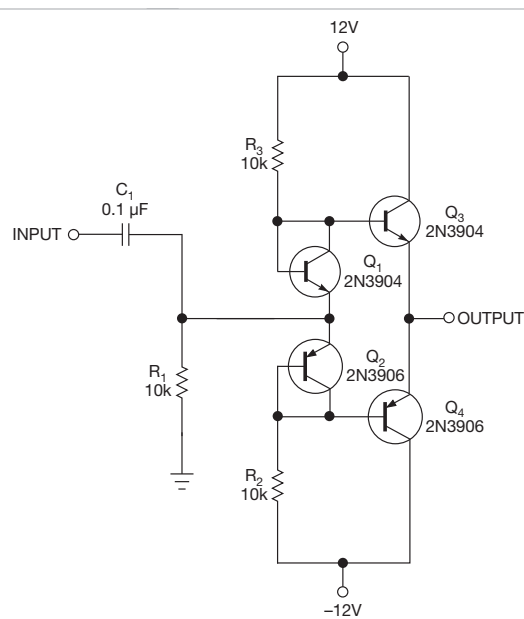

Figure 2 Current-mirror transistors replace the diodes in Figure 1.
A simpler circuit, such as the one in **Figure 2**, uses current-mirror transistors  $Q_1$  and  $Q_2$  instead of diodes. Resistors  $R_2$  and  $R_3$  set the zero-signal bias current in the bias-transistor circuits. The current-mirror effect causes the current in the output transistors to be nearly equal to the current in the bias transistors—approximately 1.2 mA in this case.
At turn-on, if the instantaneous rectified ac-line voltage,  $V_{ACR}$ , is greater than approximately 10V, Point A in **Figure 2**, MOSFET  $Q_2$  turns on, forcing thyristor  $Q_1$  off. In this situation, a little current flows through  $R_1$  and  $Q_2$ , injecting a small charge into bulk capacitor  $C_O$ , Path A to B in **Figure 2**.
When  $V_{ACR} - V_O \leq 8V$  or so, where  $V_O$  is the output voltage,  $Q_2$  is off, letting  $Q_1$  conduct. In this situation, the bulk capacitor receives the necessary charge through  $Q_1$ , Path B to C in **Figure 2**, to match  $V_O$  to  $V_{ACR}$ . After this point,  $V_{ACR}$  falls below  $V_O$ , and the bulk capacitor alone must support any power the dc/dc converter demands until  $V_{ACR} - V_O \geq 5V$  or so, Path C to D in **Figure 2**. At Point D,  $V_{ACR} - V_O \approx 5V$  and thyristor  $Q_1$  triggers, which conducts the capacitor's
**Figure 2** If  $V_{ACR}$  is greater than approximately 10V, MOSFET  $Q_2$  turns on; current flows through  $R_1$  and  $Q_2$ , injecting a small charge into bulk capacitor  $C_O$ .